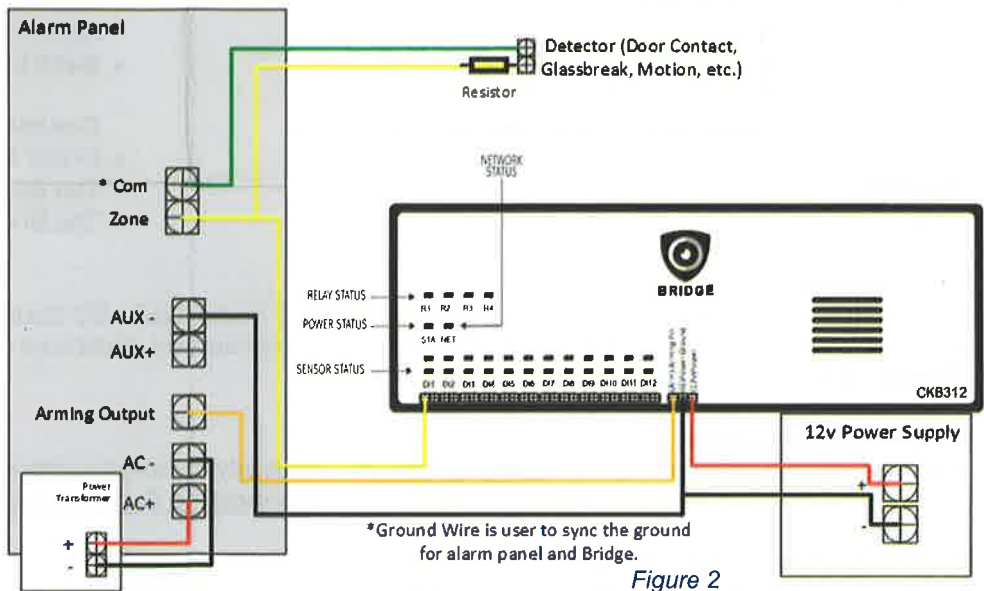

Figure 2
The Bridge can support triggered events from cameras with edge-based analytics or a physical input trigger from a sensor or relay. There are 12 physical, digital input zones on the CKB312 Bridge. Each of these zones are programmed to operate independently, but all are a part of a common ground. If you are wiring the Bridge with an existing alarm panel, the alarm zones connect to these inputs, as shown in Figure 2 below. The Bridge works with any device that can trip the alarm input of the Bridge. The alarm zones each consist of an (I)input, (G)round*.
If the Bridge shares a common ground with the alarm panel, then (G) is not needed. Simply wire from one of Digital Inputs of the Bridge to the zone terminal of the alarm panel, as shown in Figure 2. Repeat this for each alarm zone going through the Bridge. Whenever that detector is triggered, the voltage changes on this loop, signaling the Bridge to create a video event for the camera assigned to that Digital Input Zone. The alarm panel transmits the alarm signal as programmed in your alarm panel and simultaneously, the Bridge uploads video to the CHeKT web portal.